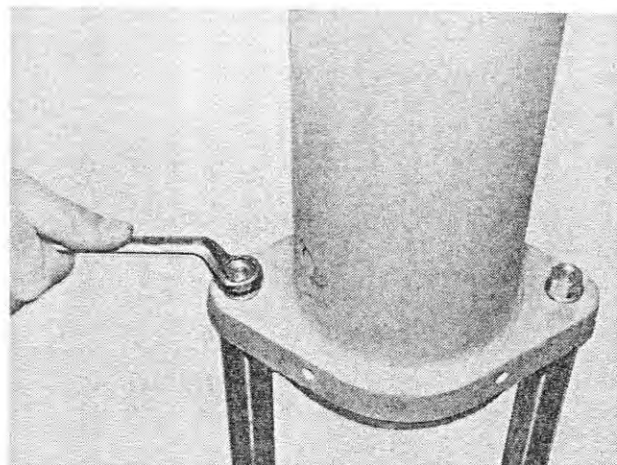

Fig. 221
21. Unscrew the hex nuts of the pneumatic cylinder (Figure 221) and remove the cylinder.